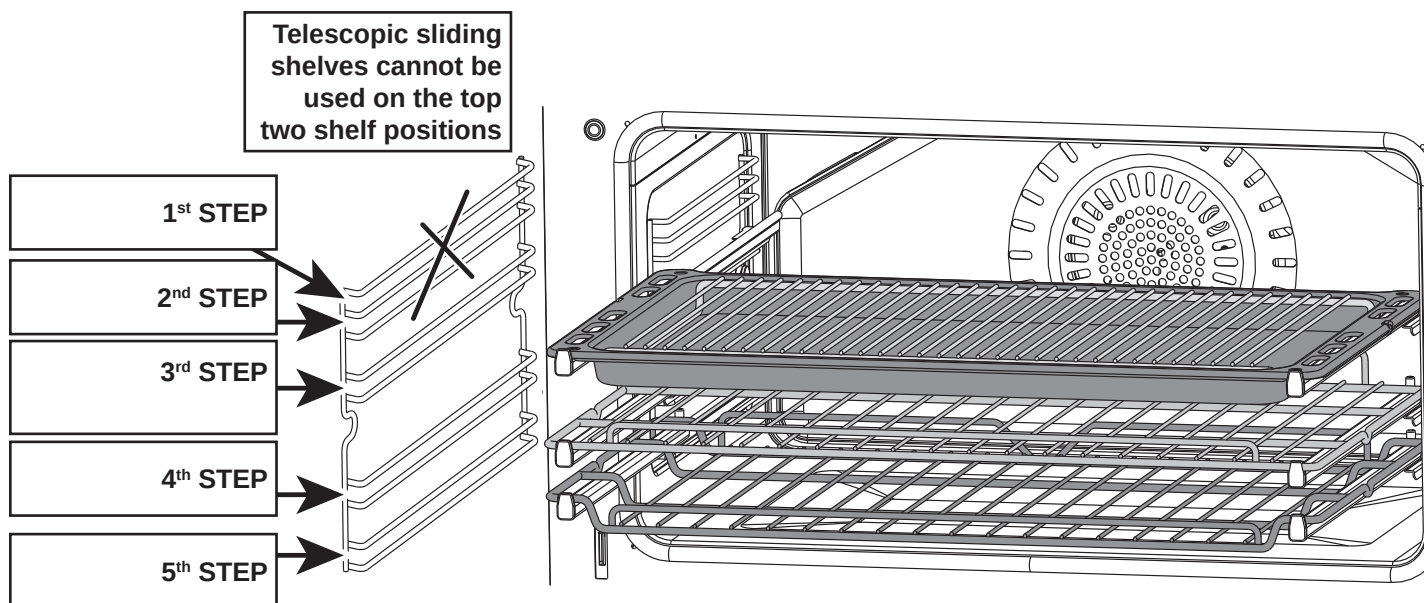
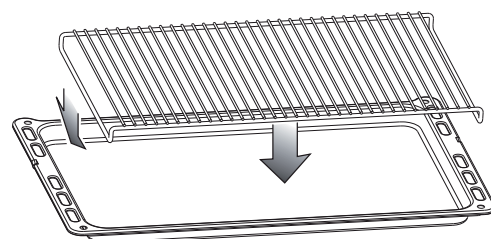

Fig. 4.3
Fig. 4.4
- Position the broiling pan on the first or second level from the top (fig. 4.3).
- Introduce the broiling pan (fig. 4.4) in the oven. The broiling pan should be centered under the broil element (fig. 4.3).